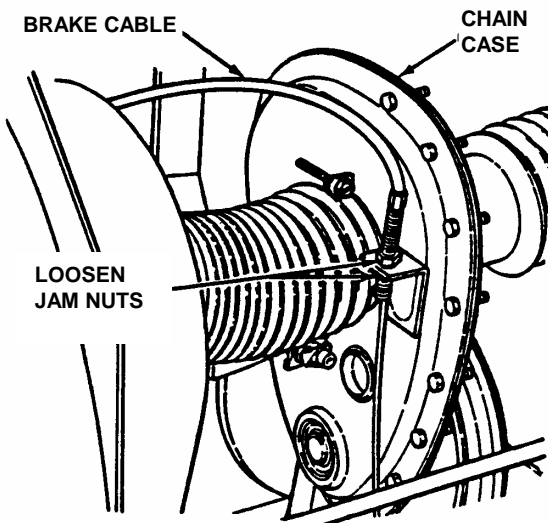

FIGURE 4.8
6. If measurement is less than 1/2" or greater than 3/4", loosen the two jam-nuts. See Figure 4.8. Hold the clutch/brake cable to the chain case bracket.